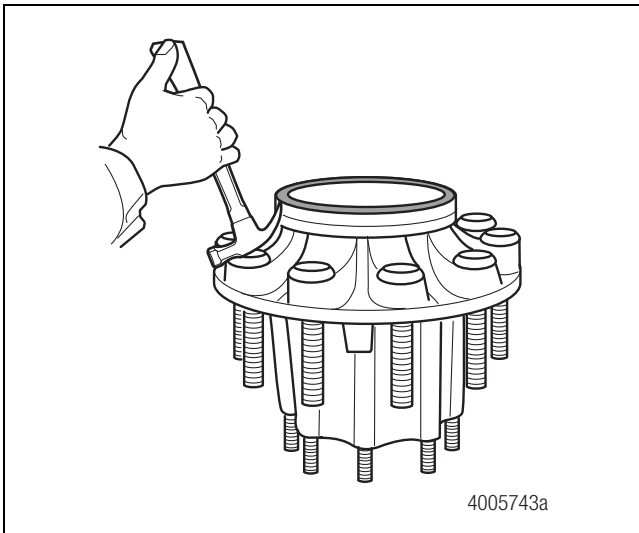

Figure 4.13
1. Use a small pry bar or hammer and chisel to remove the ABS tone ring from the hub. Use care with the tool to avoid bending and damaging both components. Use a circular pattern around the wheel to remove it from the hub. Figure 4.13.